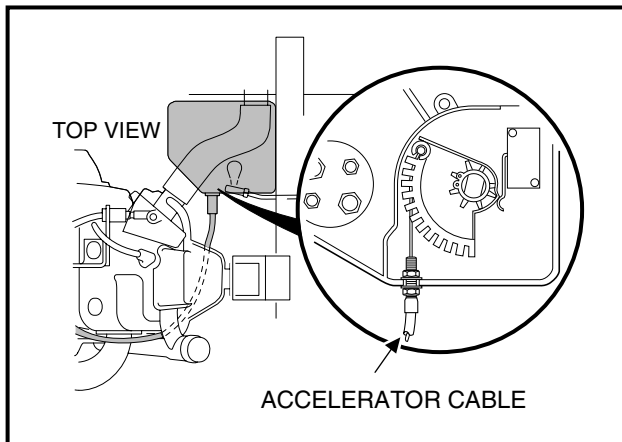

Figure 16-54 Connect Cable to Cam
28. Connect accelerator cable to actuator cam in the electrical box. Position the accelerator cable in mounting slot in the wall of the electrical box and tighten mounting nuts to 18 in-lb (2.0 N·m) **(Figure 16-54, Page 16-21)**. Install electrical box cover and tighten cover screw to 18 in-lb (2.0 N·m).